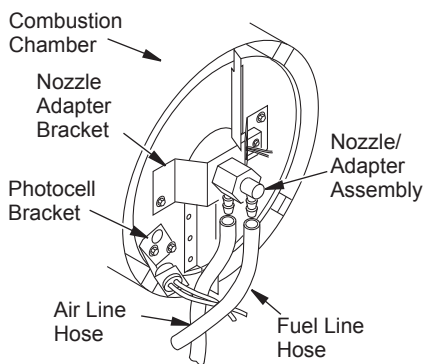

Figure 17 - Removing Air and Fuel Line Hoses
3. Remove fuel and air line hoses from nozzle assembly (see Figure 17).